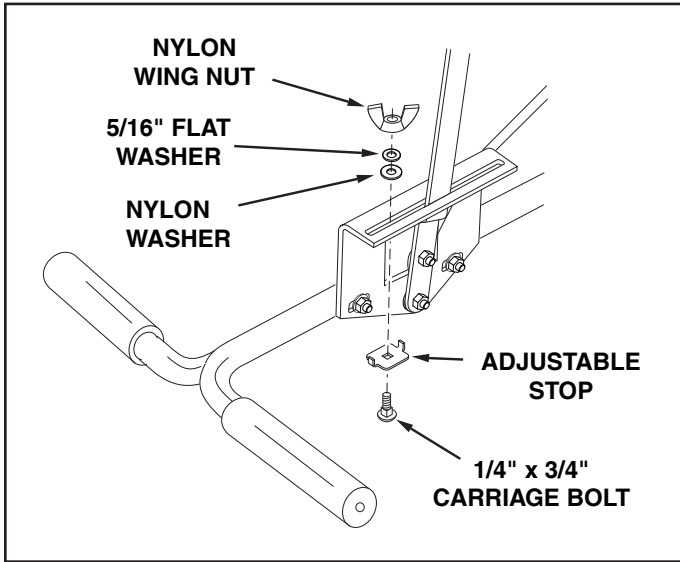

FIGURE 12
21. Place the adjustable stop into the "ON" end of the slot in the top of the flow control mounting bracket. Secure with the 1/4" x 3/4" carriage bolt, a nylon washer, a 5/16" flat washer and the nylon wing nut. See figure 12.